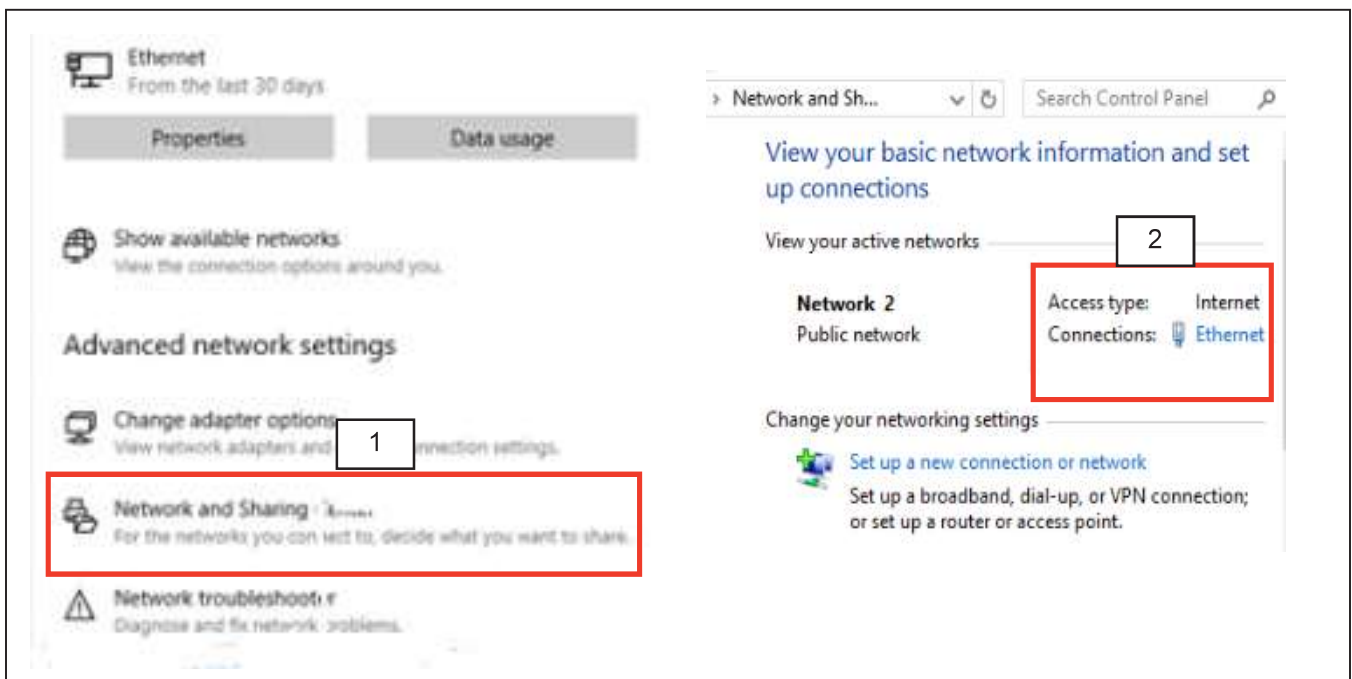

Figure 7 - Network & Sharing Center - Public Network Connection
1.12. Select **Network & Sharing Center** (1) and click on Public Network **Connexions** (2) to access the **Network Connection & Status** window. See Figure 7.